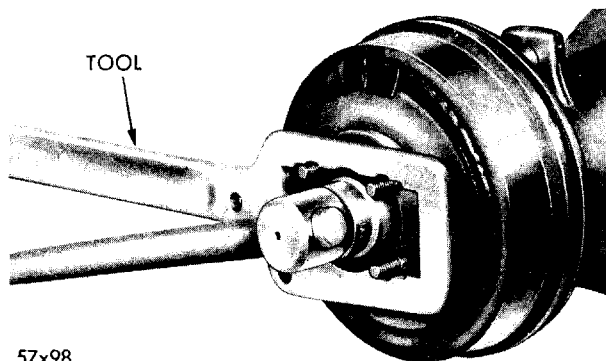

Fig. 23—Removing Handbrake Drum and Flange Assembly
- (1) Disconnect front universal joint.
- (2) Apply hand brake or use wrench Tool C-3281 (Fig. 23) and remove flange nut. Release parking brake (if applied) and remove hand brake flange and drum assembly. Use puller Tool C-452, if necessary.
- (3) Remove brake support grease shield spring and grease shield.
- (4) If screw driver or sharp instrument is used in performing this operation, care must be exercised not to damage the neoprene sealing surface at bottom of shield.